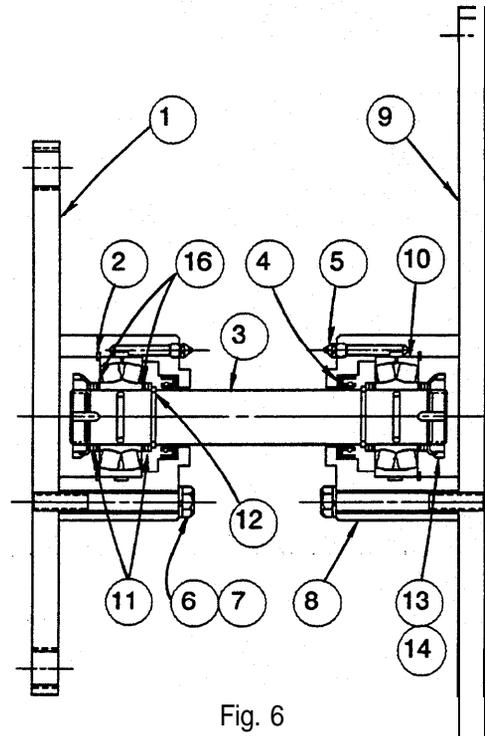

Fig. 6
- 2.5.3 Referring to Figure 6, the overall length of the axial locking device can be adjusted by relocating shims (11,16) from one side of a bearing to another.